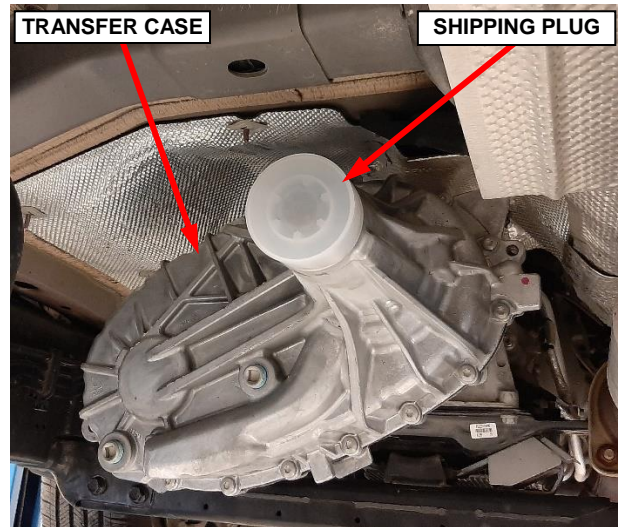

Figure 26 – Remove Shipping Plug
13. Remove the shipping plug from the rear output of the transfer case. Transfer the shipping plug to the old transfer case for core return (Figure 26).